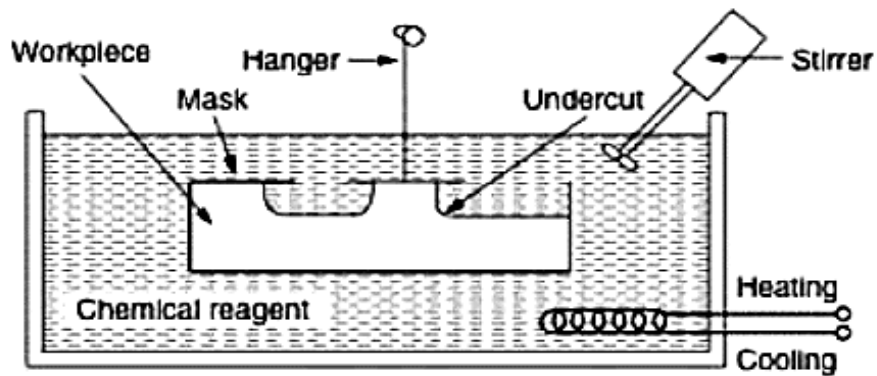

Fig 4.1 Typical chemical machining set-up
- ✓ This stage is carried out by immerse type etching machine (Fig 4.1).